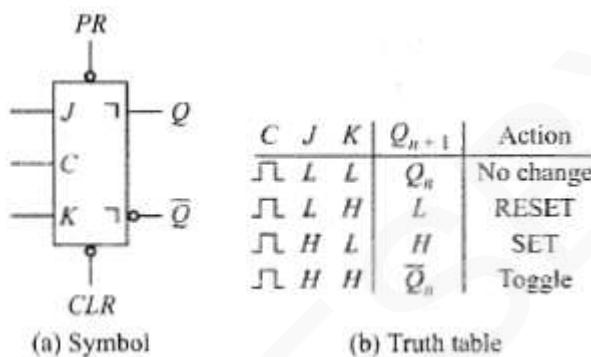

Figure 8.29: 7476 JK master flip-flop
- Here's how it works (Fig 8.29):